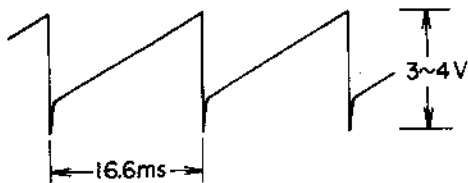

Fig. 2-3 Vertical Deflection Waveforms
- b) Connect an oscilloscope to Vertical Yoke Terminal of Deflection P.C. Board and confirm that there is a waveform as shown in Fig. 2-3.